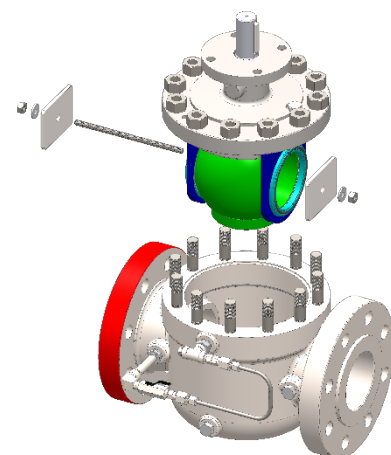

Figure 2: Installation Tool
9. Attached the installation tool to the replacement cartridge as shown in Figure 2. Tighten the nuts onto the threaded shaft until the cartridge assembly is compressed by approximately .060" (1.50 mm).